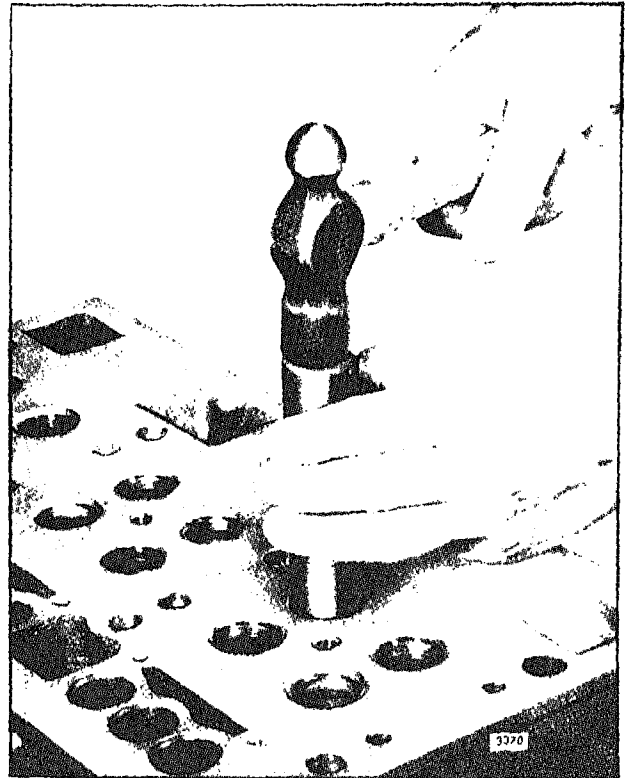

Fig. 8 - Installing Valve Seat Insert
5. Drive the insert in place with installer J 7790 (four valve head) as shown in Fig. 8 until it seats solidly in the cylinder head.